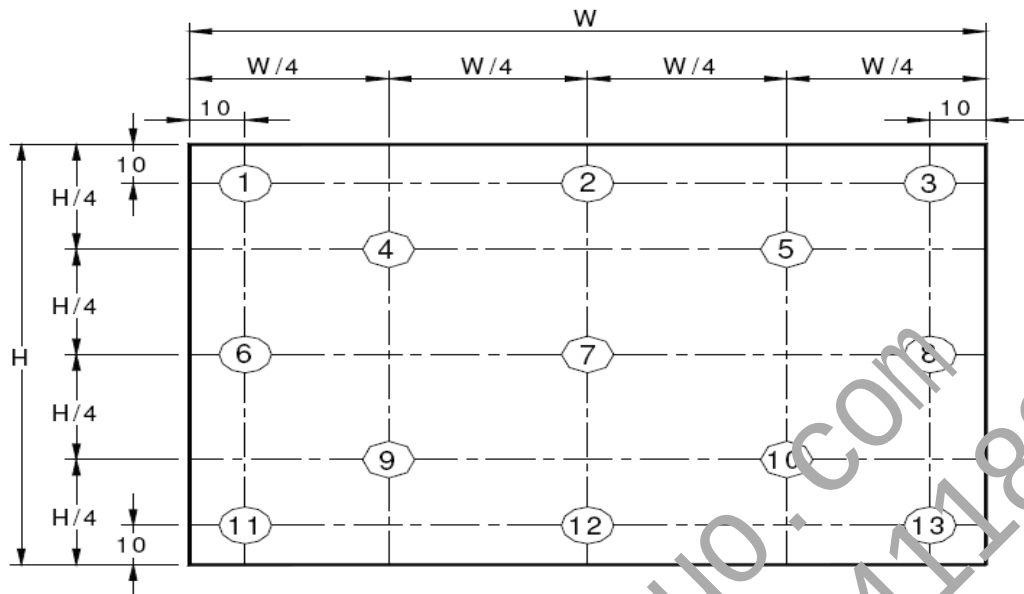

Figure 9. Uniformity Measurement Locations (13 points)
4. The White luminance uniformity on LCD surface is then expressed as : $\Delta Y = \text{Minimum Luminance of 5(or 13) points} / \text{Maximum Luminance of 5(or 13) points}$. (see Figure 8 and Figure 9).
The White luminance uniformity on LCD surface is then expressed as: ΔY_5 = Minimum Luminance of five points / Maximum Luminance of five points (see Figure 8), ΔY_{13} = Minimum Luminance of 13 points / Maximum Luminance of 13 points (see Figure 9).